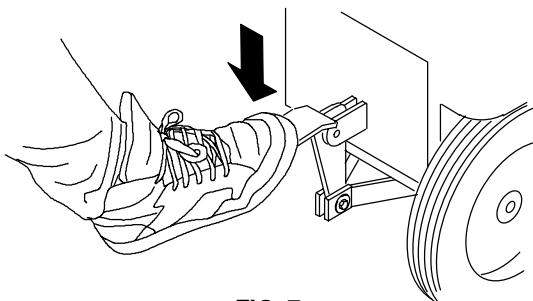

FIG. 7.
- Raise dispenser assembly off floor. Step down on pedal to raise dispenser to transport position (*Figure 7.*).